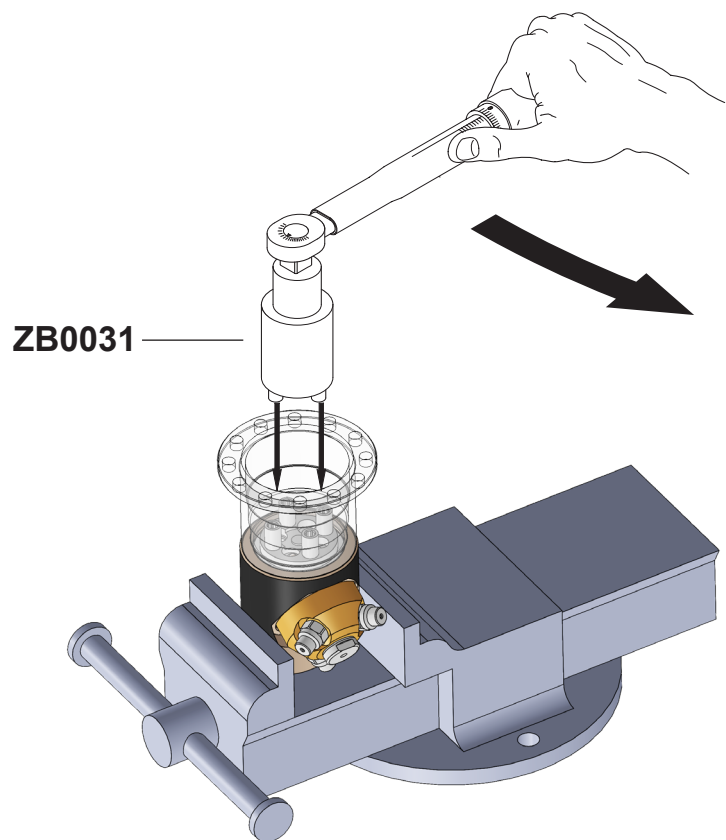

Fig. 9.18
- 9.4.12) Insert the washer pos.15 in the shaft pos.9 and screw the casing pos.16 on the same (put a few drops of Loctite 222 on the thread); tighten with the dedicated key (code ZB0031) and torque wrench set as in table "B" of the manual (Fig.9.18).